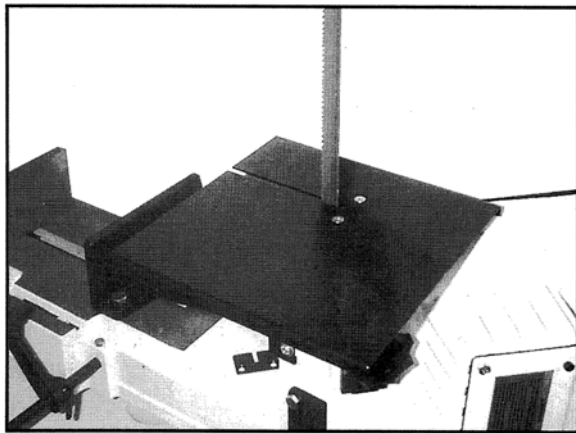

Figure 5
4. Guide blade through the slot in the table and fasten with two screws. See Figure 5.